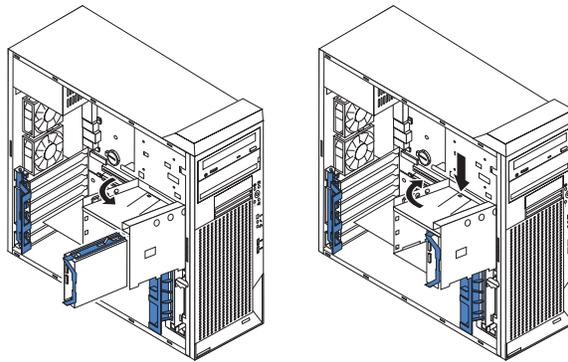

Figure 15. Rotating the drive cage
8. Grasp the drive cage and rotate the cage out of the computer until it locks into place with the drive-cage retention tab (see Figure 15).